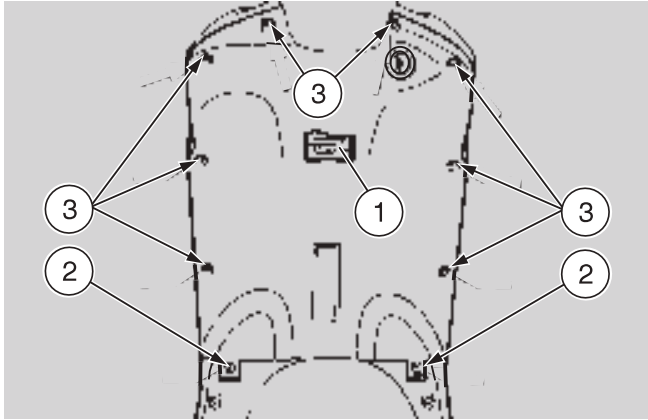

Fig. 49
- ◆ Unscrew and remove the two fastening screws of the bag hook (1-Fig. 49).
- ◆ Remove the bag hook (1-Fig. 49).
- ◆ Unscrew and remove the two screws (2-Fig. 49).
- ◆ Unscrew and remove the eight screws (3-Fig. 49).